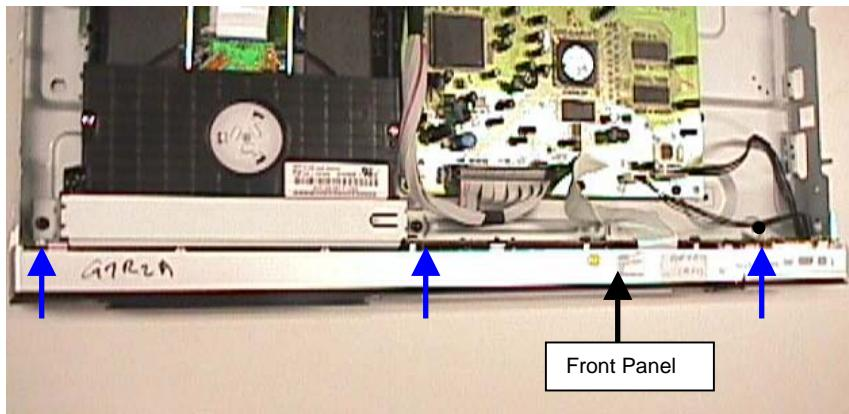
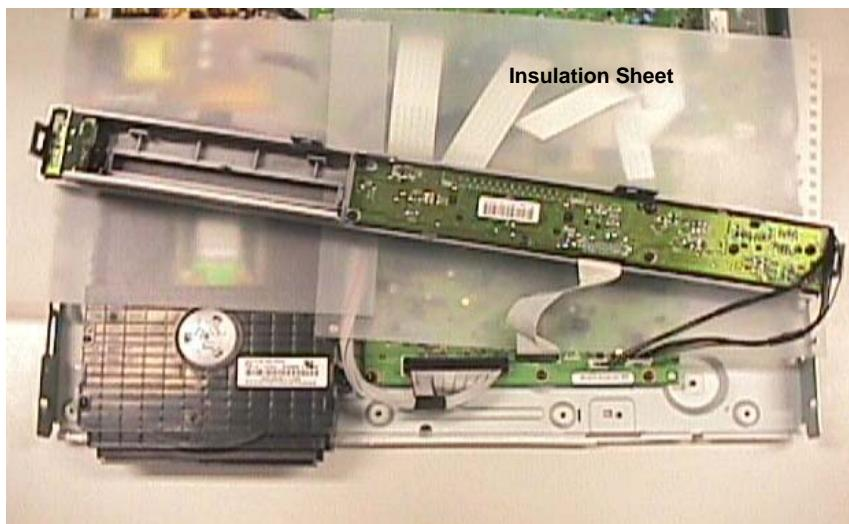

Figure 3 - detach the front panel
Figure 4 - Front Panel Service Position
- 2) Remove the screws to detach the Front Panel and loosen the Front Loader Plate190 as shown in Figure 3. The Front Panel Service Position as shown in Figure 4.